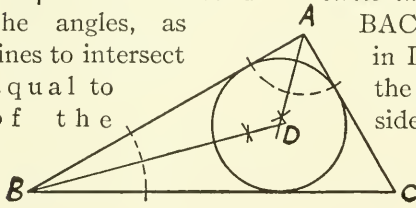

Fig. 619
24. To inscribe a circle in a triangle (Fig. 619).—Bisect two of the angles, as BAC and ABC (Prob. 7), producing the lines to intersect in D. From D as a centre, with radius equal to the perpendicular distance from D to any of the